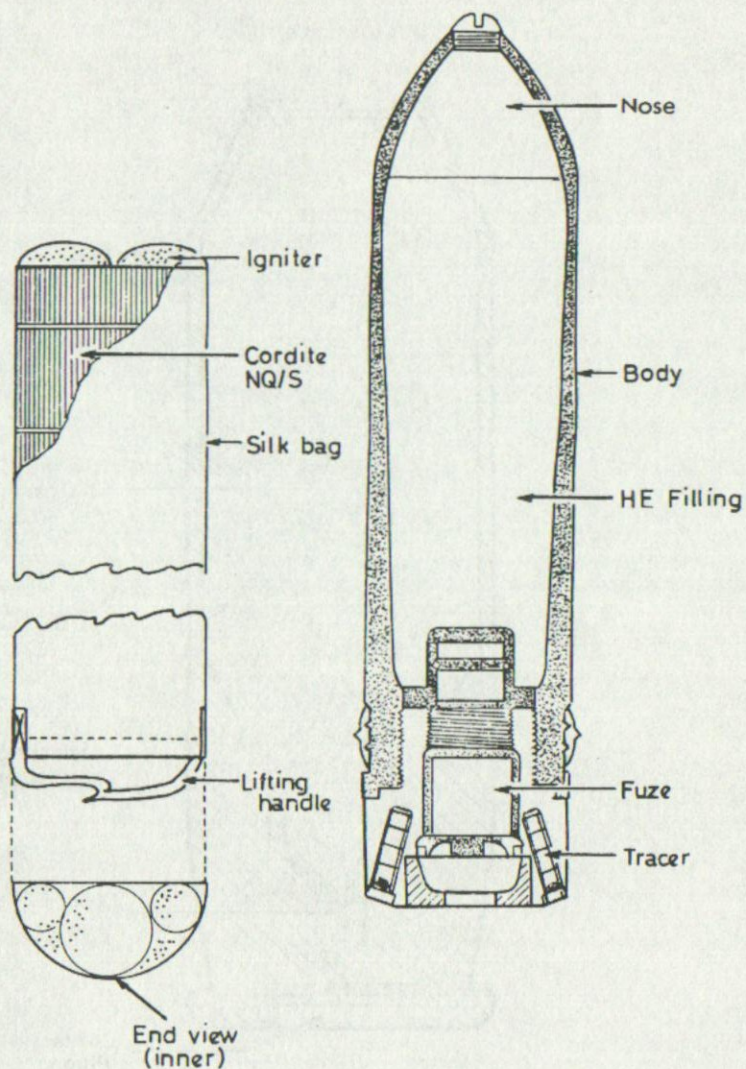

Fig 76 - 120-mm HESH projectile and charge
- b. *High explosive squash head (HESH)* (See Fig 76) – The projectile consists of a hollow steel body fitted with a copper driving band near the base. The nose of the body is recessed and is closed by a nose plug. The base of the projectile is threaded to accept a base adaptor. The base adaptor is made of aluminium alloy and is designed to take the fuze and the tracers. The nose of the projectile is filled with an inert substance, the remainder is filled with high explosive. For recognition, the upper half is coloured yellow, the lower half black.